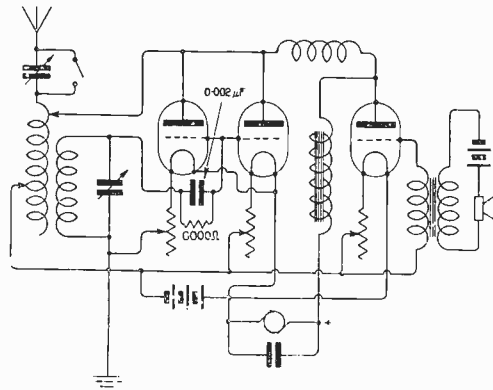

Fig. 7.
(1) Your diagram is quite wrong. See Fig. 7, August 12th issue. Beyond this we cannot help you much, as unfortunately you omit to give the values of the components of your set. (2) Range of wavelengths covered from 200 metres to 2,000 metres, assuming you are using a 0.001 mfd. aerial tuning condenser.
See Fig. 7. For constructional information, see pages 127 to 144, May 28th, 1922, issue.